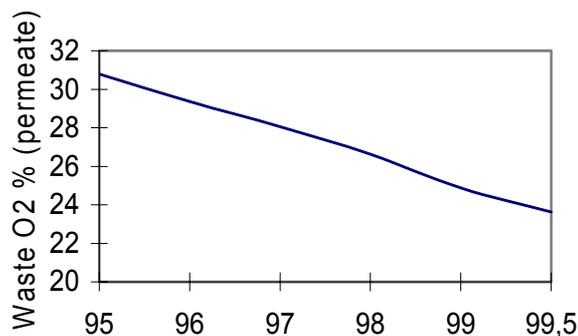

Fig. 2-1 Product N2 % (retentate)
- Oxygen-enriched air leads to increased risk of fire in the event of contact with inflammable products. Make sure that there is adequate ventilation at all times! Refer to fig. 2-1 for indicative graphic.